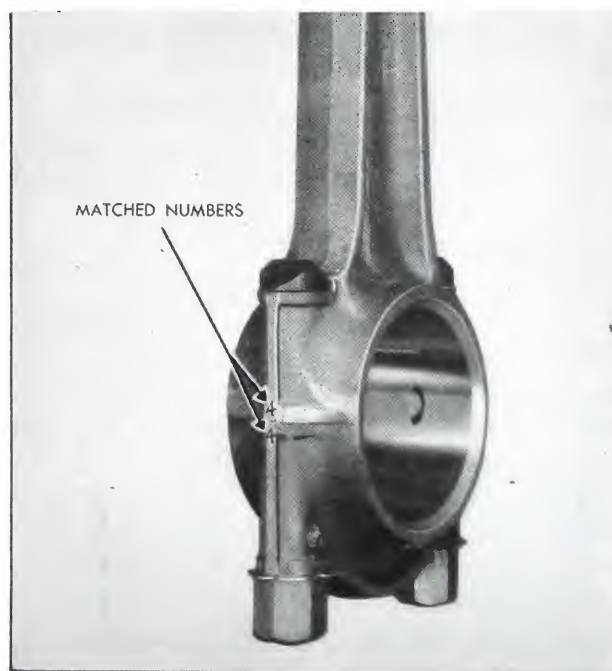

Fig. 2-40. Numbers on connecting rod
3. Stamp rod numbers on the rod and cap (if not already stamped) as shown in Fig. 2-40 from "1" to "6" for six cylinder engines.